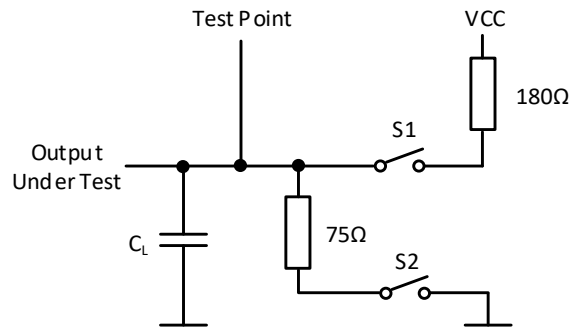

Figure 1. Switch Characteristic Test Circuit
- The test circuit is shown in figure 1. C_L includes parasitic capacitance of prod and socket. Input signal is from waveform generator, and it should meet the following demands: $PRR\leq 1MHz$, $Z_O\approx 50\Omega$, $t_R\leq 15ns$, $t_F\leq 6ns$. Each enable terminal is tested alone.